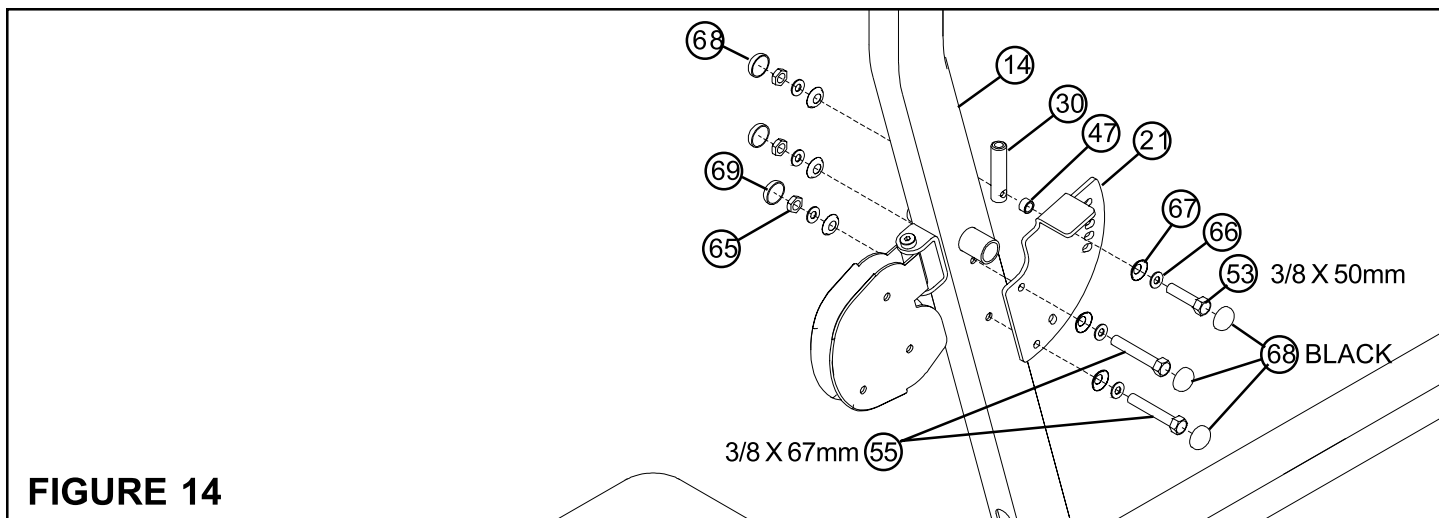

FIGURE 14
- **SECURELY** assemble the LAT/LOW ADJUST PLATE (21) to the LAT/LOW FRAME (14) using two BLACK RH CAPS (68), two RH CAPS (69), two 3/8 X 67mm BOLTS (55), four 3/8 SAE WASHERS (66), four 3/8 RH WASHERS (67) and two 3/8 LOW HEIGHT LOCK NUTS (65) as shown in FIGURE 14.
- Assemble the 3/4 X 3-1/8 TAPPED SHAFT (30) to the LAT/LOW ADJUST PLATE (21) using two BLACK RH CAPS (68), one 3/8 X 50mm BOLT (53), two 3/8 SAE WASHERS (66), two 3/8 RH WASHERS (67), one 3/8 X 1/2 SPACER (47) and one 3/8 LOW HEIGHT LOCK NUT (65) as shown in FIGURE 14. (**NOTE: Tighten connection enough to remove play, yet allowing TAPPED SHAFT to rotate freely.**)